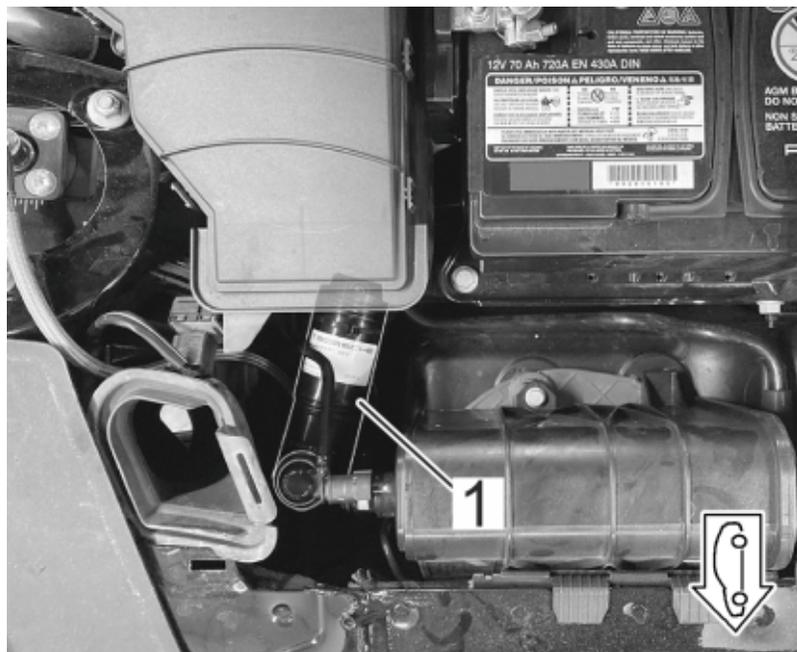

Figure 15.1
- 13.1 – The overview shows the pressure cell \Rightarrow Figure 15.1 -1- in the final installed position.